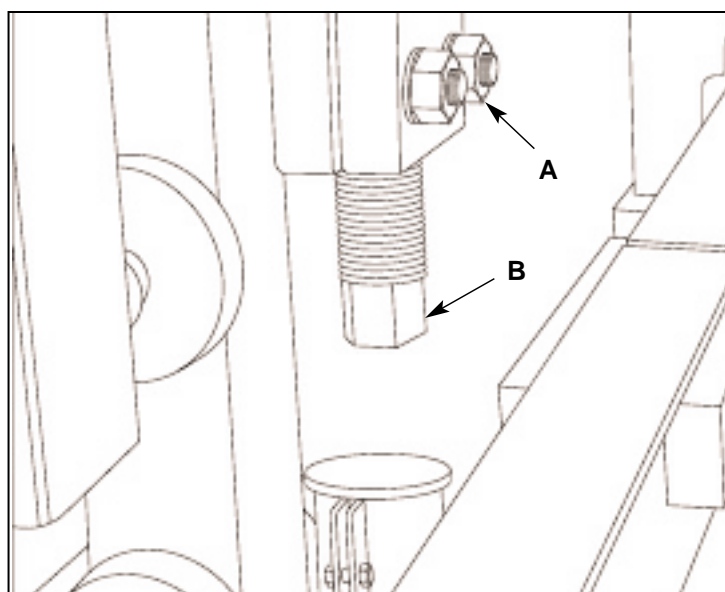

Figure 5.28 HEIGHT PINS ADJUSTMENT (LEFT SIDE SHOWN).
5.6.7 Loosen nuts (A) and set height pins (B) to be this far away – the final result of the measurement in 5.5.6 – from lower height stops (figure 5.28).